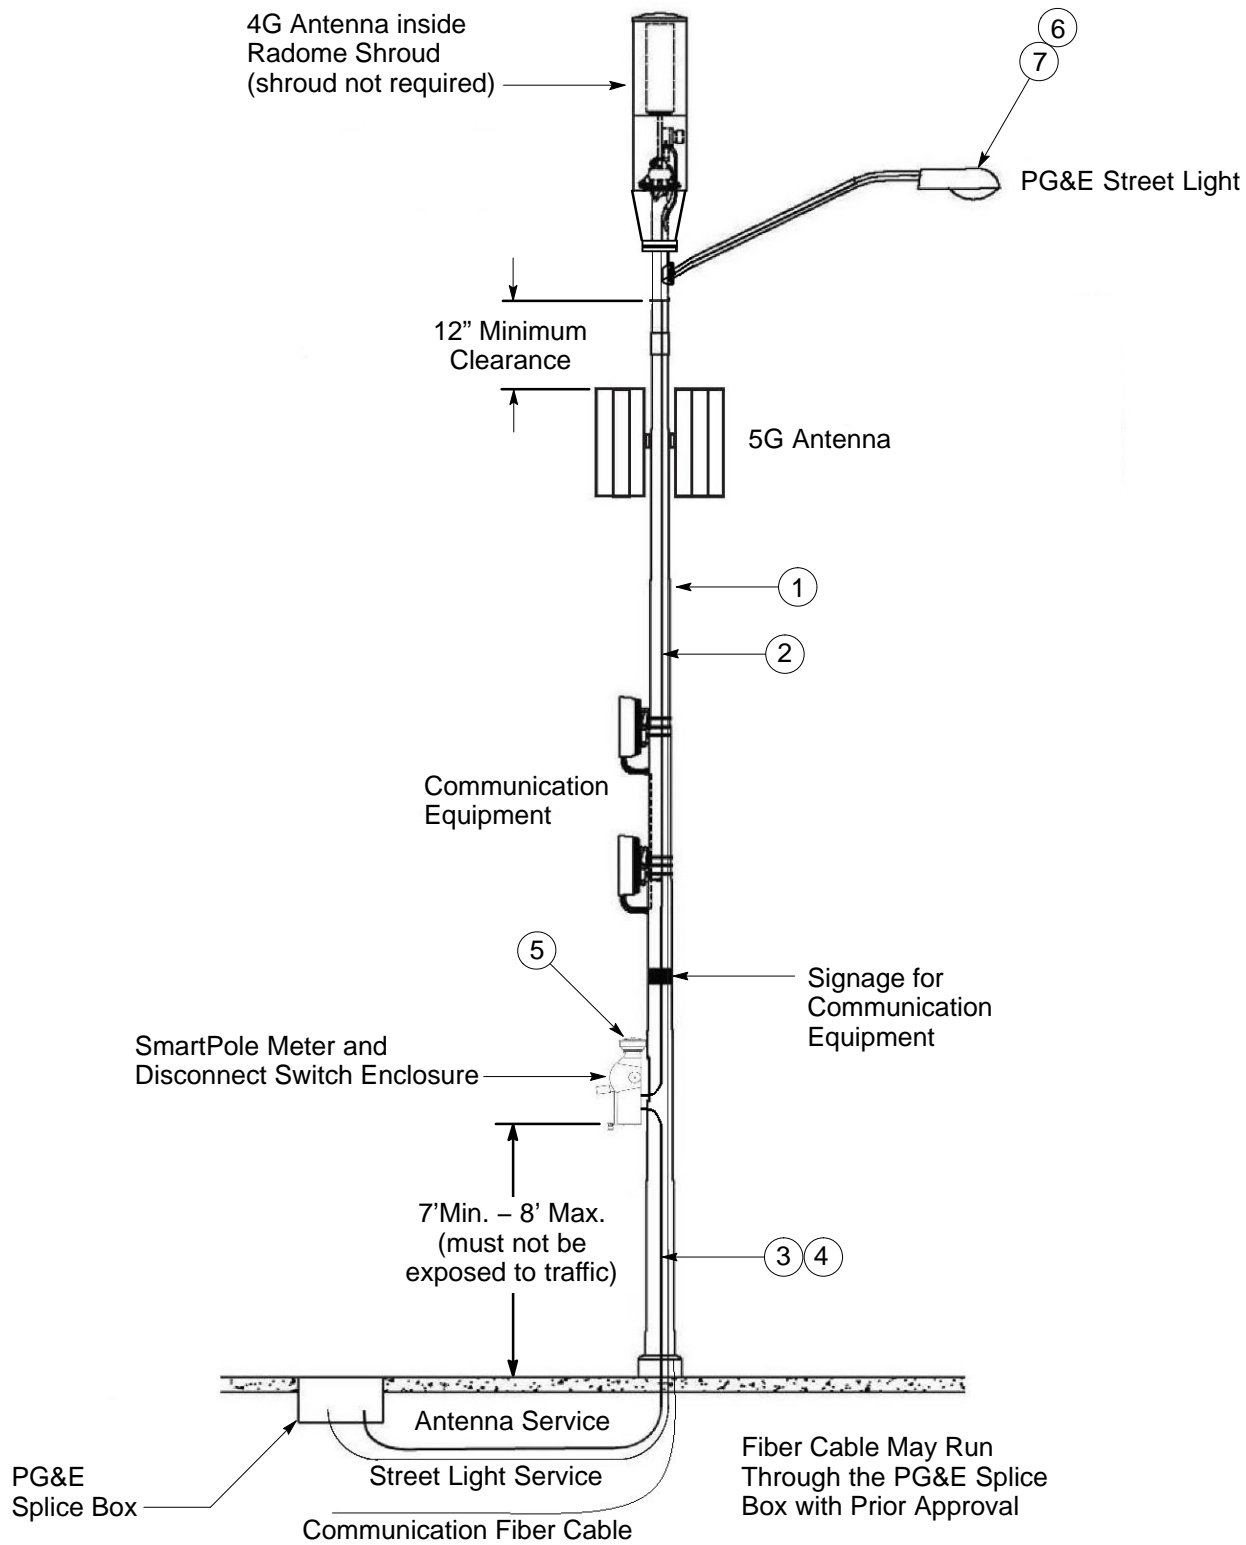

Figure 1
1. The streetlight pole is designed to support two communication radios, one 4G antenna, one 5G antenna, SmartPole Meter with enclosure, and a disconnect switch. Additional equipment is not allowed to be installed on the pole. See pole details in Figure 1 PG&E Steel Street Light Pole with Attachments on page 4.